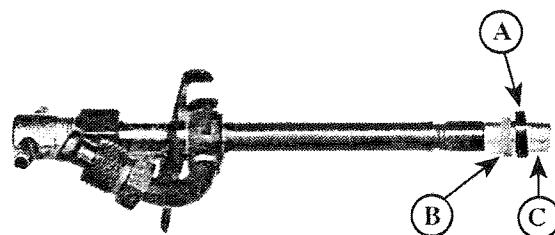

Fig. 13.
- a. Position JD258 (ROS16477) Pilot Tool (Fig. 13,C) over nozzle tip. If Pilot Tool (included in cleaning kit) is not available, use a No. 16189 Nozzle Protector Cap found on every new or replacement nozzle.
- b. Position a new carbon stop seal (Fig. 13,B) on pilot tool. Use a new seal washer (13,A) to help slide the carbon seal into place until it seats in its groove on nozzle body.